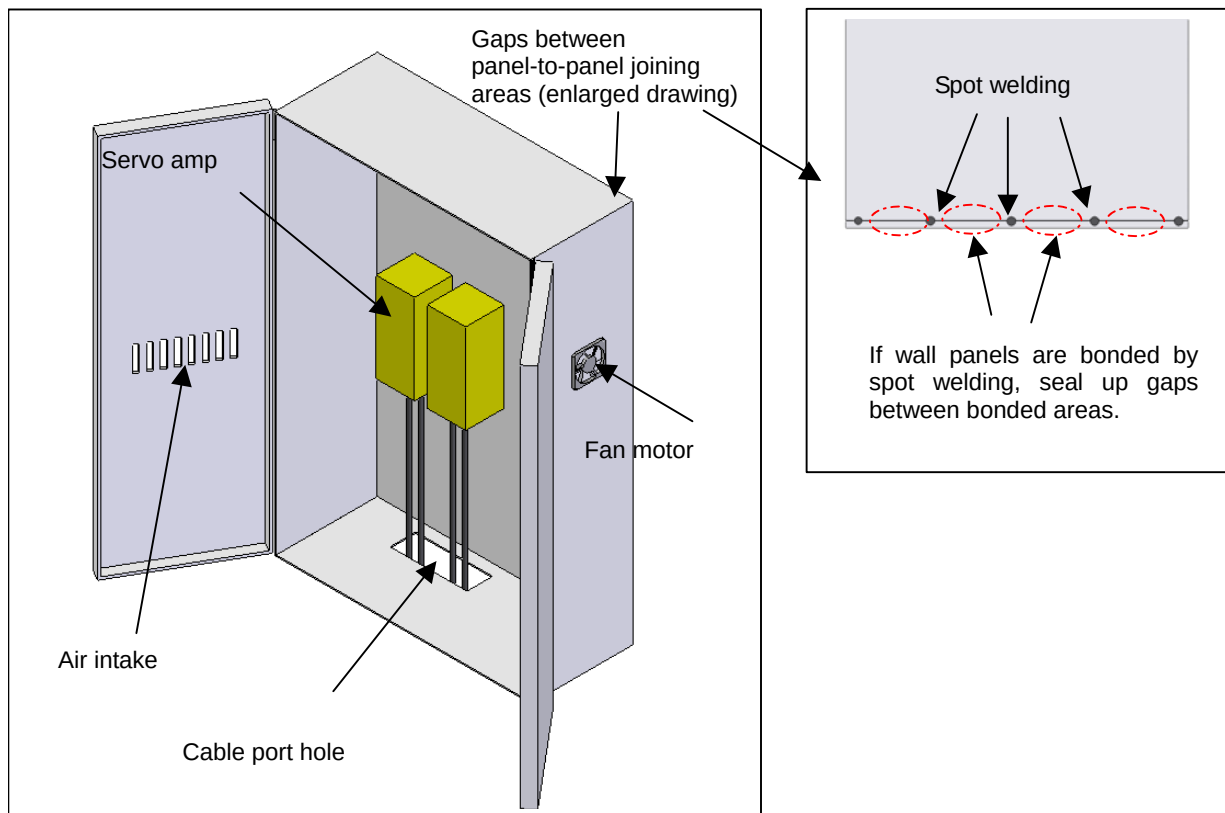

Fig. 1 Example of power magnetics cabinet not sealed well (example of poor
- <1> Keep the power magnetics cabinet free of any hole or gap through which external air can enter the cabinet (Fig. 1). Do not make any hole in a cabinet wall panel; fitting air filters in holes cannot necessarily seal up the cabinet.
- <2> Do not make any hole in the cabinet wall panel to install a fan motor in the hole (Fig. 1). In order to release heat from the cabinet to the outside, use a device (such as a heat exchanger or cooler) having a structure that will not hamper seal-up of the cabinet.
<4> Keep the cable port free of gaps (Fig. 1).